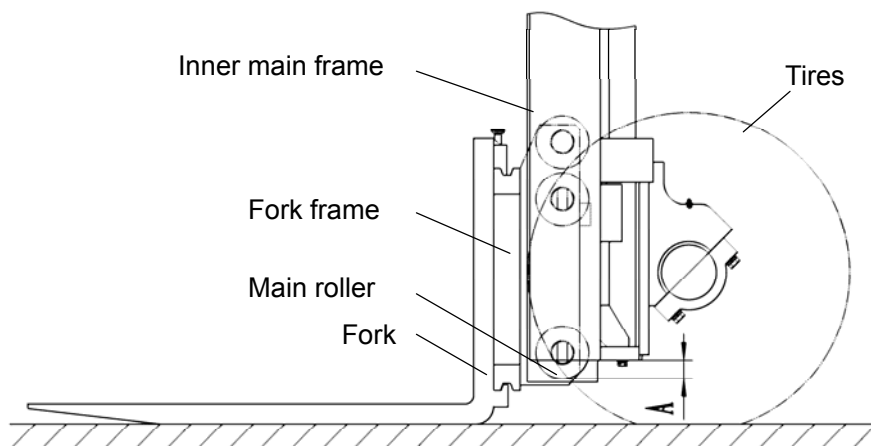

Figure 2-72
9.5.2 Height adjustment of the fork frame (Figure 2-72)